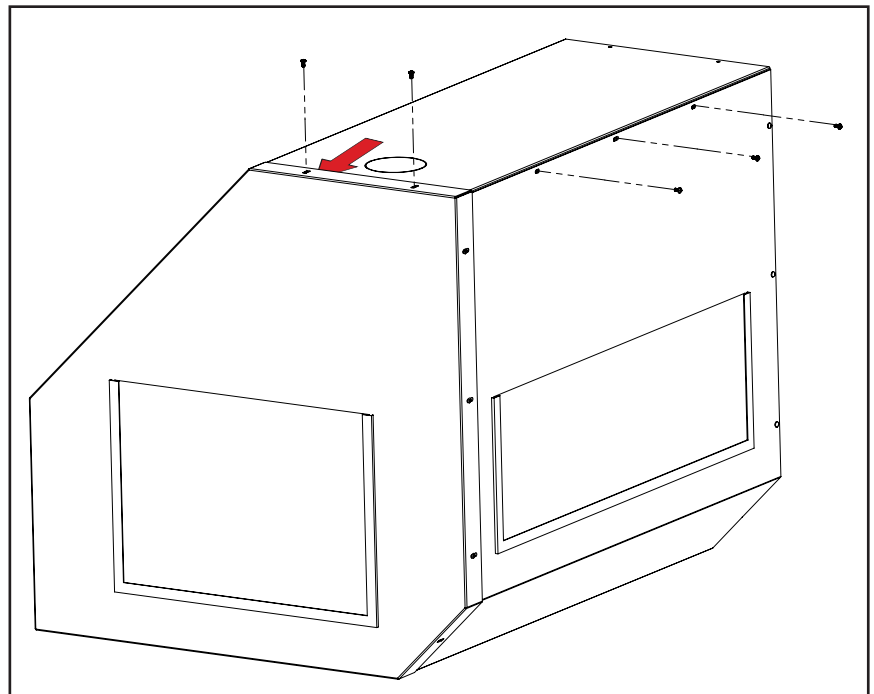

Figure 5
3. Slide the Top Panel under the lip of the Right Side Panel and against the Rear Panel; secure with five 10-32 $\times$ 3/8" Pan Head Screws (see **Figure 5**).